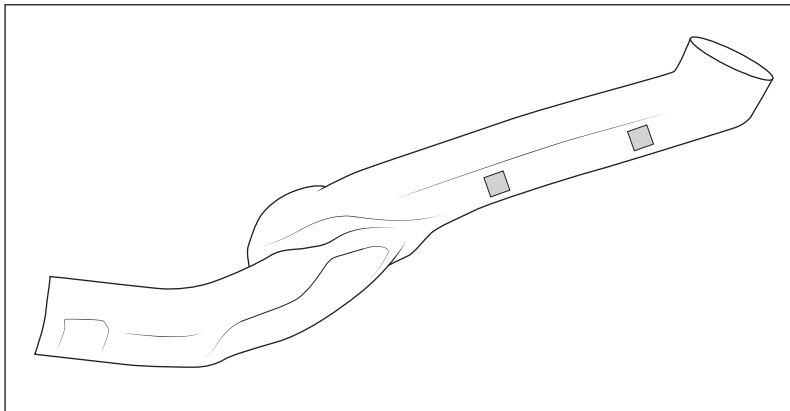

Figure 20
3. Install two adhesive foam squares to the Intake body where it will contact the A-pillar (Fig. 20).